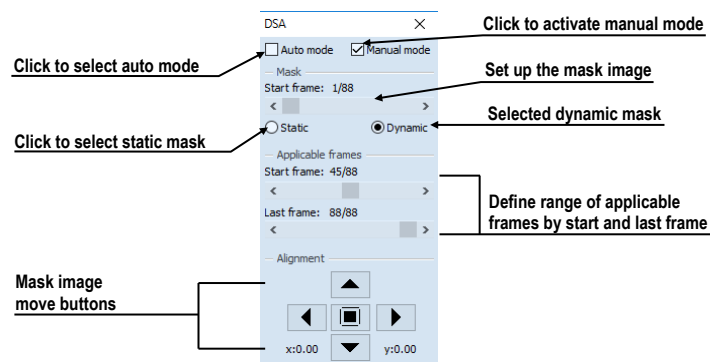

Figure 169 – DSA tool
2. Select the **Manual mode** in the **DSA** tool (see Figure 169).